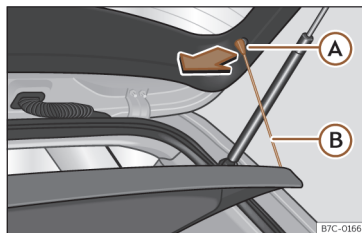

Fig. 117 In the luggage compartment: removing and fitting the shelf.
- Detach the cord loops»» **Fig. 117** (B) from their hooks (A).
- Hook the loops»» **Fig. 117** (B) to the rear lid.